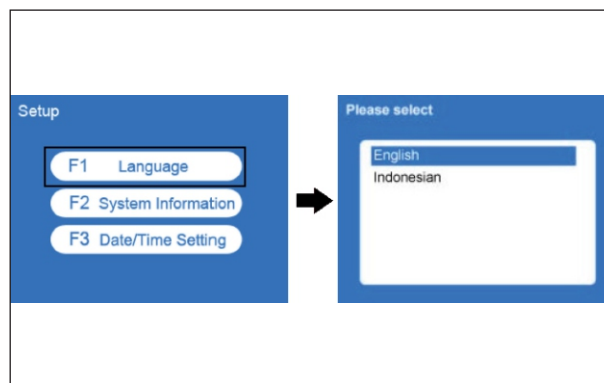

Fig. 7.23
- This will have English, Indonesia and Persian. (Fig. 7.23)